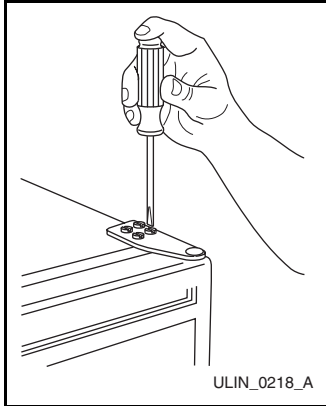

Figure 30
1. Remove top hinge from cabinet (four screws) (**Figure 30**). Hold door to keep it from falling.